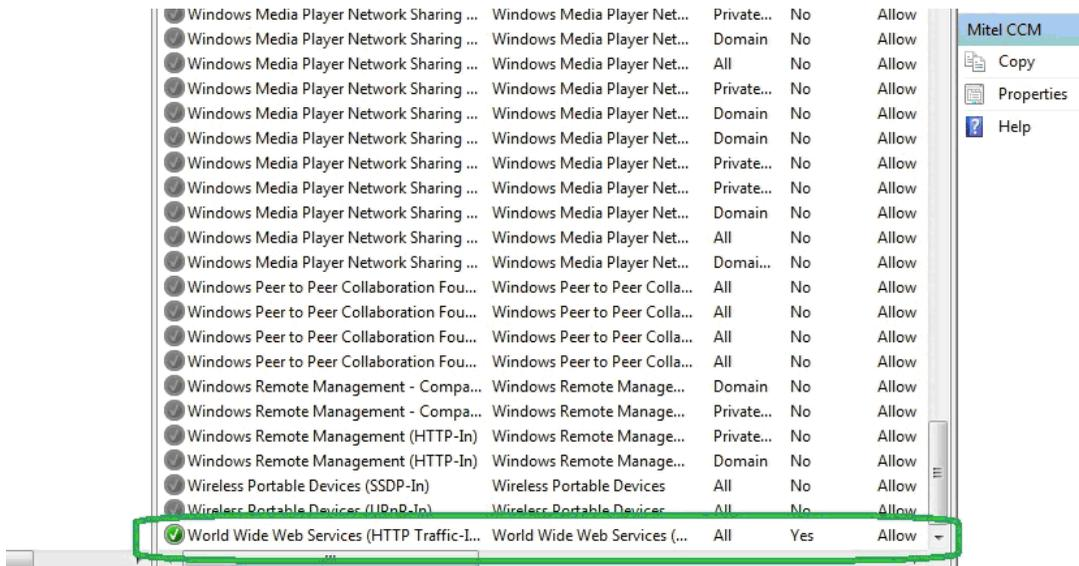

FIGURE 2-51 Windows® Firewall With Advanced Security - World Wide Web
Step 7 To ensure access to your web site from another computer, verify that the server's firewall allows traffic through the web site port (Default 80), as shown in FIGURE 2-51. Change the firewall if needed.